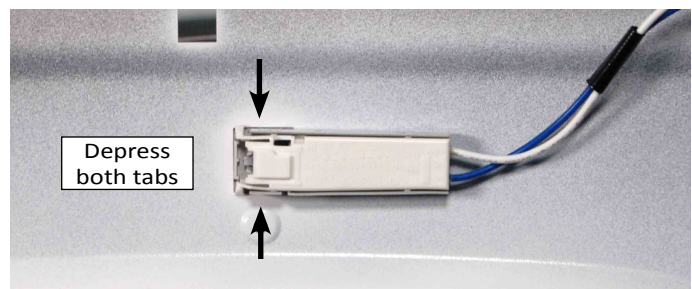

Figure 4
9. Locate the door switch on the backside of the front panel, just above the door opening. Depress both tabs and push switch through the opening. (See Figure 4.)